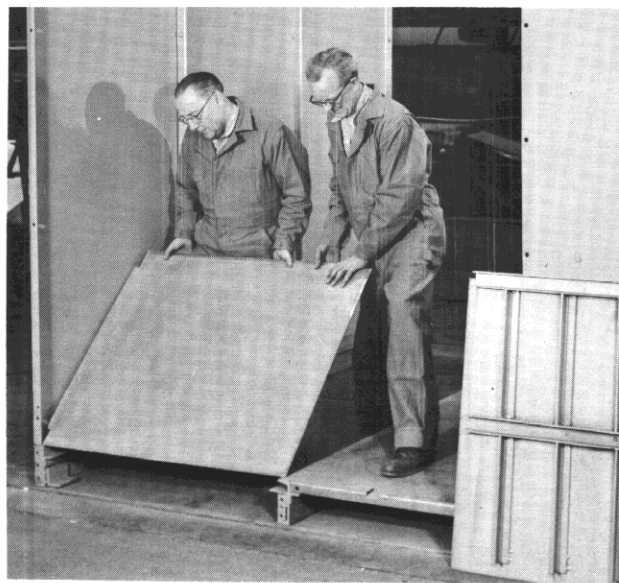

Fig. 9. Aisle Floor Plate Installation
14. The following sequence of putting down the aisle floor plates must be followed, refer to Figs. 9 and 10.